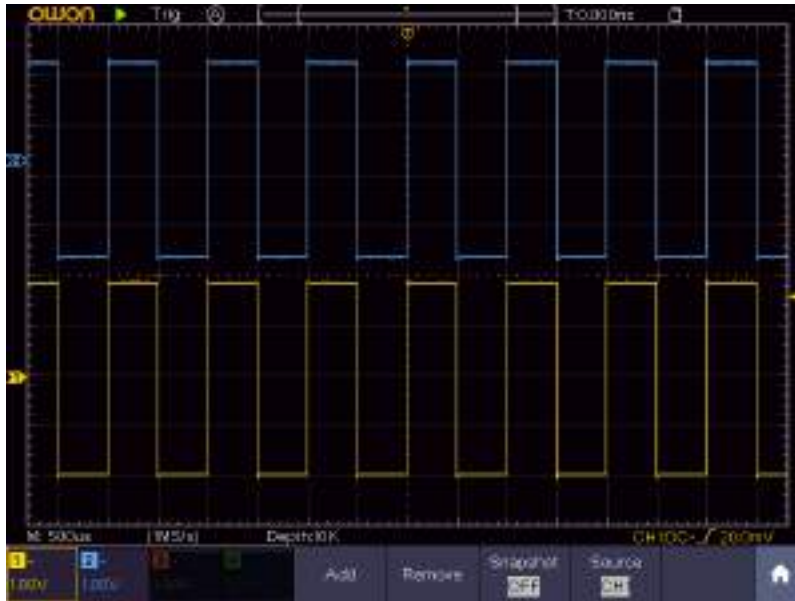

Figure 9-2 Waveform of Gain Measurement
- (1) Push the **Autoset** button and the oscilloscope will automatically adjust the waveforms of the two channels into the proper display state.
- (2) Push the **Measure** button to show the Measure menu.
- (3) Select **Add** in the bottom menu.
- (4) In the left Type menu, turn the **M** knob to select **PK-PK**.
- (5) In the right menu, select **CH1** in the **Source** menu item.
- (6) In the right menu, select **Add**. The peak-to-peak type of CH1 is added.
- (7) In the left Type menu, turn the **M** knob to select **PK-PK**.
- (8) In the right menu, select **CH2** in the **Source** menu item.
- (9) In the right menu, select **Add**. The peak-to-peak type of CH2 is added.
- (10) Read the peak-to-peak voltages of Channel 1 and Channel 2 from the bottom left of the screen (see Figure 9-2).
- (11) Calculate the amplifier gain with the following formulas.